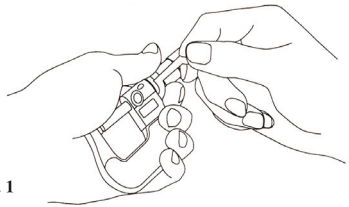
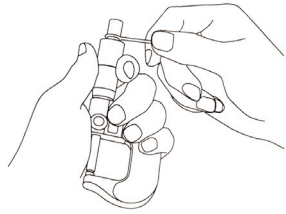

Fig. 1
Fig. 2
- (1) If the deviation is less than 0.02mm:
- Rotate the sleeve with the supplied wrench by the observed error as in the case for conventional micrometers. (Fig. 1)
- (2) If the deviation is over 0.02mm:
- Remove the ratchet stop with the supplied wrench. Push the thimble outward to disengage it from the spindle, then rotate it to zero position. (Fig. 2)